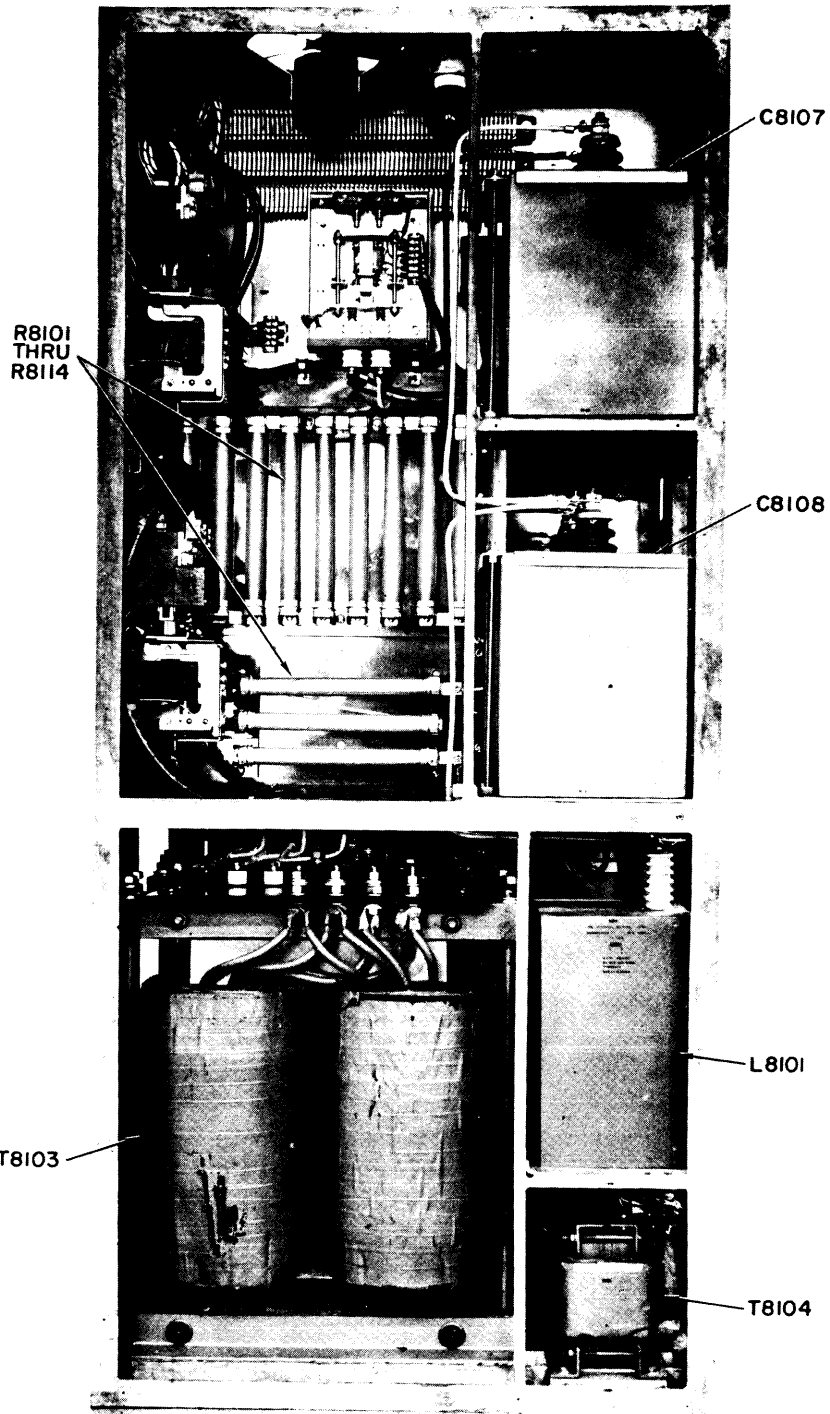

Figure 4-11. Fourth Frame, Rear View.
- c. Position filter choke L8101 rear of fourth frame, figure 4-11, above auto-transformer T8104. Make sure the two off-center porcelain electrodes on top of choke are closest to side of frame.
- d. Position capacitors C8107 and C8108 in frame (figure 4-11).
Mount resistors R8101 through R8114 (contained in crate 1) or resistor board in rear of fourth frame (see figure 4-11).